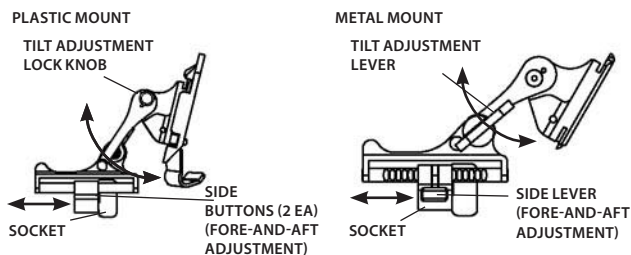

Figure 3-24. Tilt and Flip-up Assembly Mechanisms
Set your eye relief by depressing the side buttons (or, if using a metal mount, the side lever) (see Figure 3-24) and carefully move the monocular fore or aft until the eyecup comfortably seals around the eye. Readjust the helmet straps as required for vertical adjustment.
- (4) Turn to the device ON. Adjust the tilt using the tilt adjustment lock knob, or tilt adjustment lever on the metal mount (Figure 3-24), until you obtain a comfortable viewing angle.
- (6) Adjust the eye relief distance by depressing the side buttons (Figure 3-24) (or, if using a metal mount, the side lever) and sliding the monocular back and forth until you obtain a full view of the image. Reset the diopter adjustment for the best image.